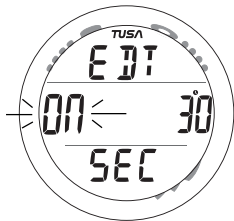

Fig. 99 - SET EDT ALARM
**Set Free EDT Alarm** information includes (Fig. 99) -